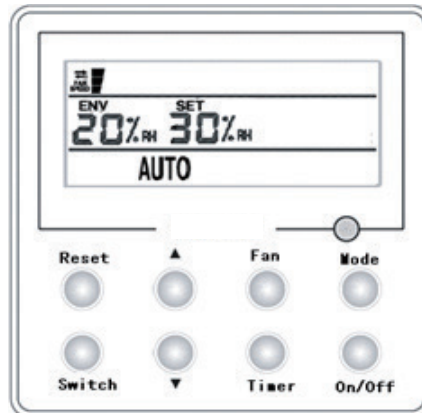

Fig.3
■ Fan Speed Control (Fig.3,4) (The figures about relative display area, the same as below.)
As shown in the figure 3, under the fresh air mode, by pressing the "Fan" key, the fan speed will change circularly from low speed to medium speed to high speed, which however is unavailable for FHBQ-D15 and FHBQ-D20.